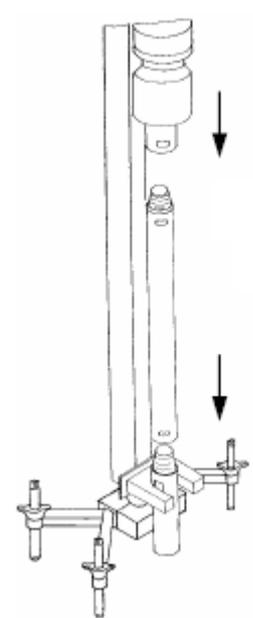

Figure 7
5. Manually screw the extension rod onto the hammer or possibly onto the other rod found in the hole (fig.7).